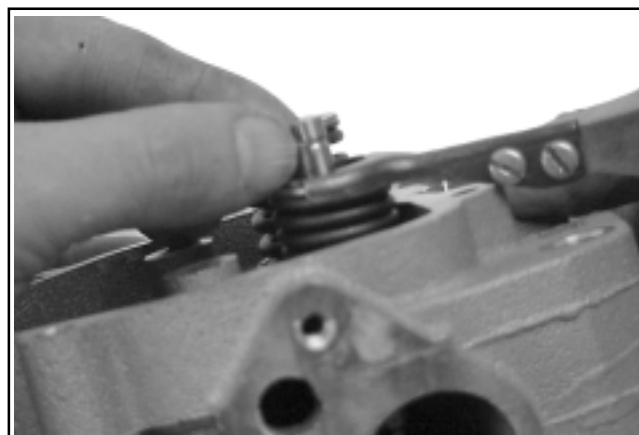

Figure 9-69. Compressing Valve Spring.
2. Compress the valve springs using a valve spring compressor and remove the valve spring keepers. See Figure 9-69.